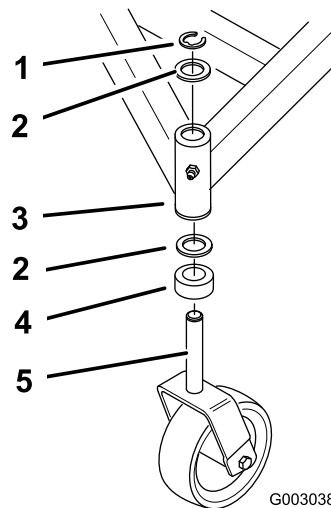

Figure 37
3. Remove the retaining ring and thrust washer(s) from the top of the castor wheel fork (Figure 37).
9. Inspect the caster wheel fork for wear and replace if necessary (Figure 37).
10. Slide the caster wheel fork through the bushings in the mounting tube. Replace the spacer(s) onto the fork and secure with the retaining ring (Figure 37).